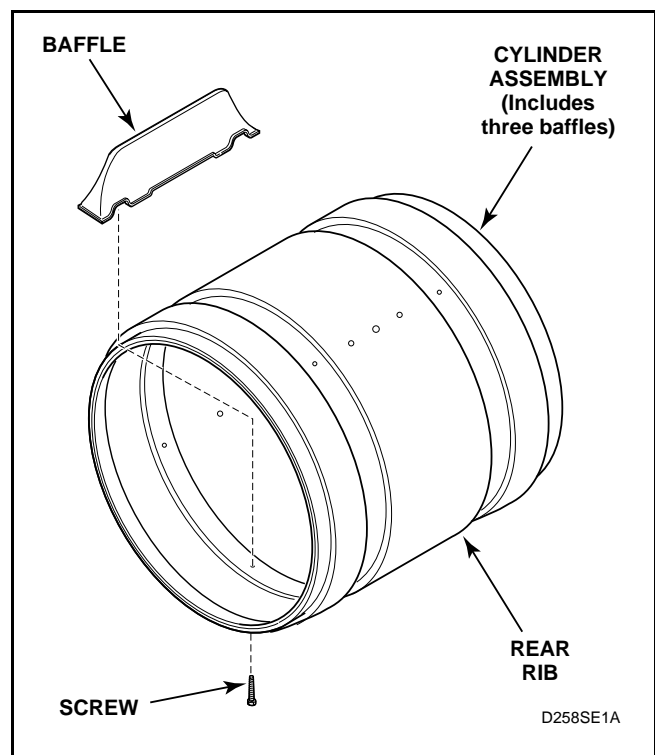

Figure 29
- Baffles – Remove screws holding baffles to cylinder. See *Figure 29*.